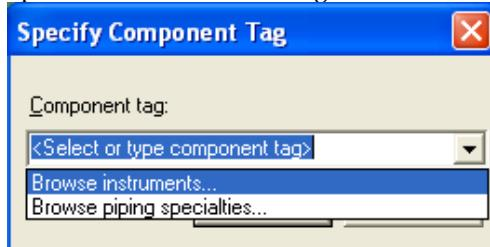

Figure 17: Specify Component Tag Dialog Box
2. The **Specify Component Tag** dialog box appears. Select **Browse instruments...** option from the **Component Tag** drop-down list as shown in Figure 17.